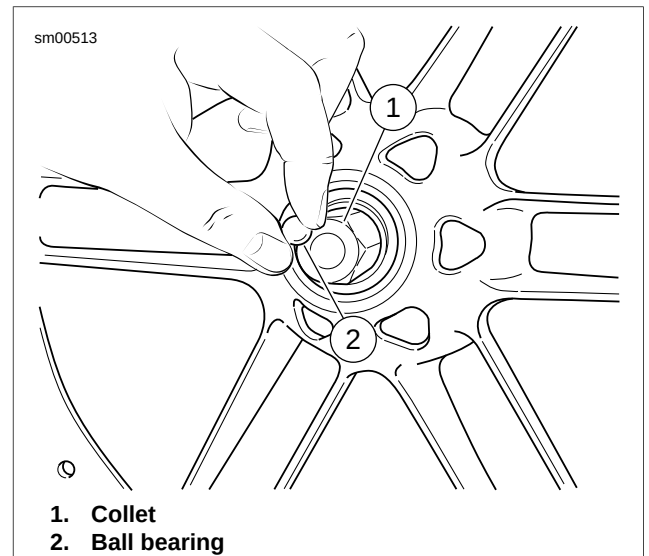
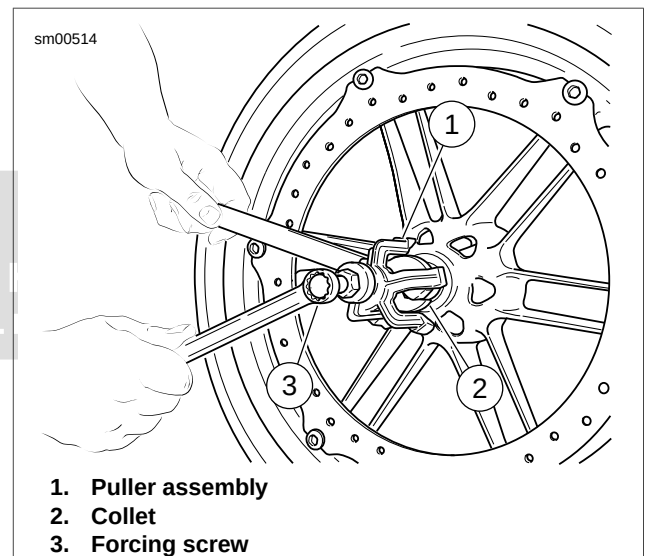
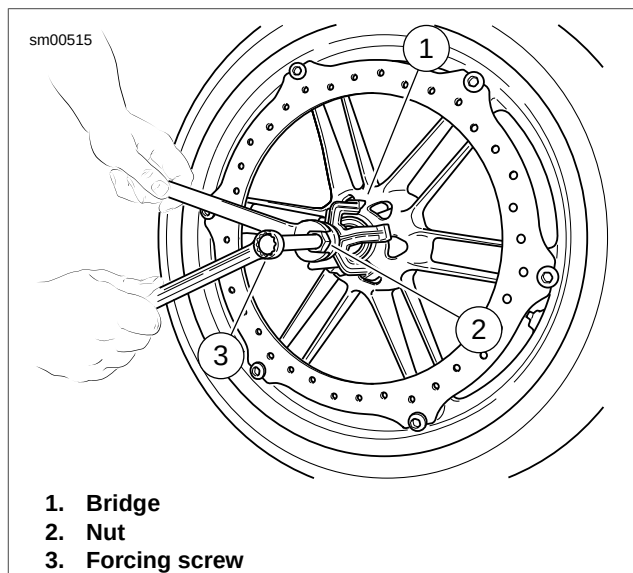
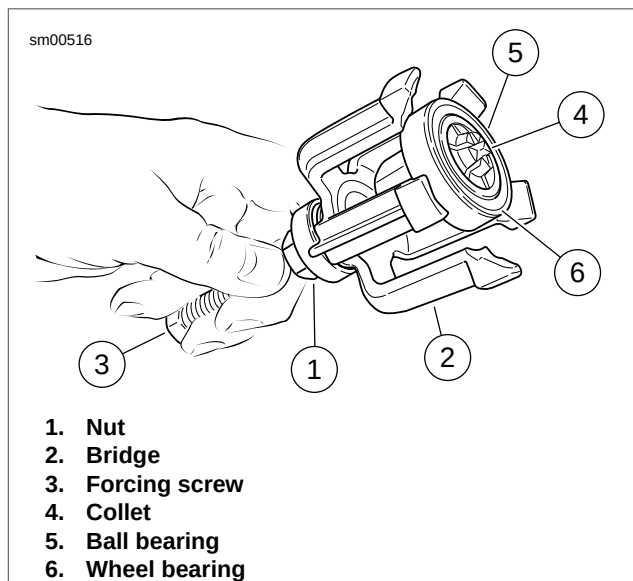

Figure 2-6. Install Collet and Ball Bearing
Figure 2-7. Expand the Collet
Figure 2-8. Remove the Bearing
Figure 2-9. Removing Bearing from Puller
- a. Sparingly apply EXTREME PRESSURE LUBRICANT (Part No. J-23444-A) to the threads of the short forcing screw (1) to prolong service life and ensure smooth operation.
- b. Assemble the short forcing screw (1), nut (2), Nice bearing (3), washer (4) and bridge (5).
- c. See Figure 2-6. Insert the FRONT WHEEL BEARING REMOVER COLLET (Part No. B-43993-7, from kit Part No. B-43993-50) into the wheel bearing until it fully seats against the bearing.
- d. Insert the ball bearing (2) into the collet (1).
- e. See Figure 2-7. Thread the puller assembly (1) into the collet (2).
- f. Hold the collet (2), and turn the forcing screw (3) to expand the collet.
- g. See Figure 2-8. Place the bridge (1) against the wheel hub.
- h. Hold the forcing screw (3), and turn the nut (2) clockwise until the bearing is free of the hub.
- i. See Figure 2-9. Loosen the nut (1), and back off the bridge (2). Hold the forcing screw (3) while holding the collet (4) to remove the forcing screw from the collet.
- j. Remove the ball bearing (5) and wheel bearing (6) from the collet (4).